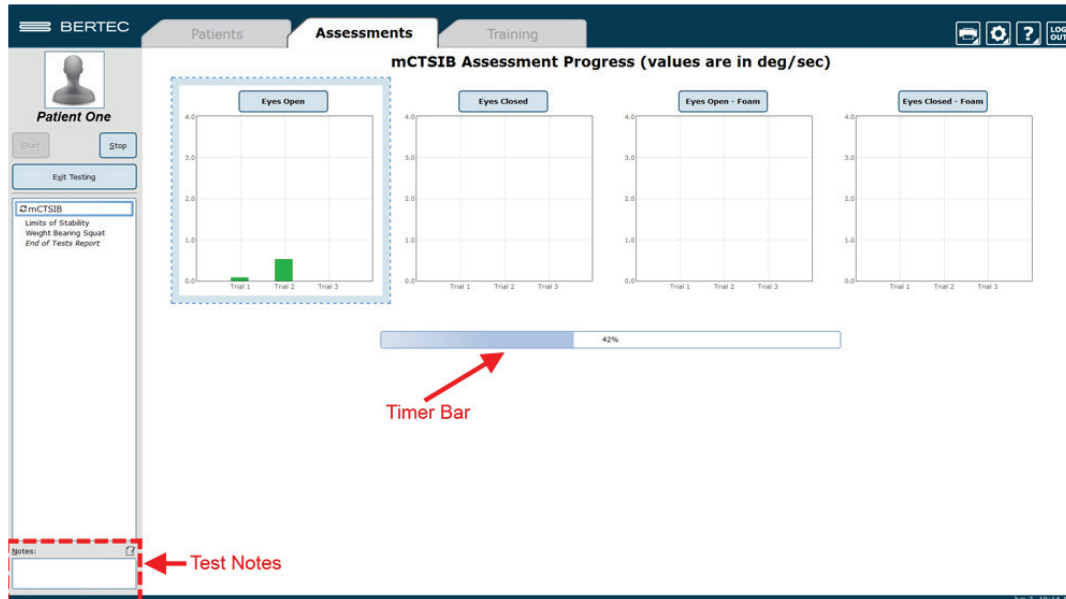

Figure 23: Clinician Screen During Assessment.
3. Perform the assessments as directed on the computer screen. At any point during an assessment, the clinician may input notes by clicking in the Test Notes area, located on the bottom left corner of the screen. Figure 23, located on the following page, shows this screen.